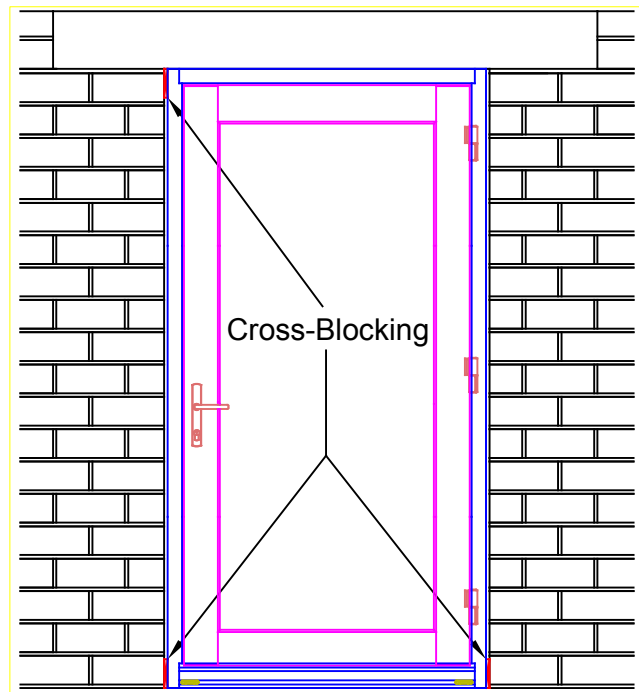

Figure 2
- E. If the door is installed in a receptor, in addition to the blocking and shimming described in Step F, cross-blocking will be needed to prevent the door from going out of square when opened (See figures 2 and 3).